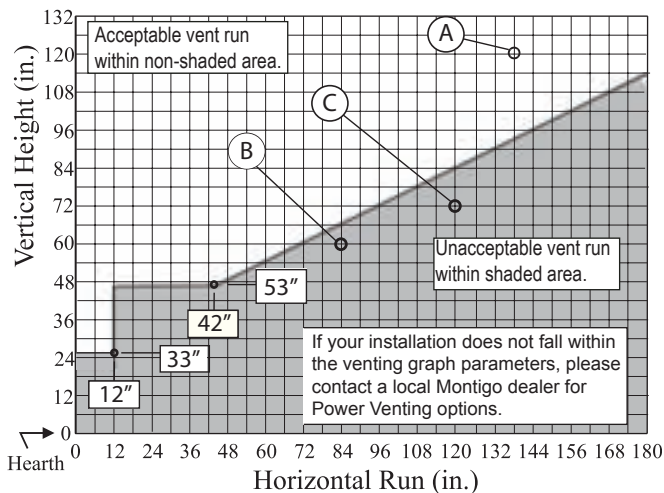

Figure 14. H38PF* or HL38PF* Rear Vent Venting Graph for wall mounted terminations.
- Venting runs *must* fall within the limits set by the venting graphs, see **Figure 14 or 14a**.
Measure the vertical height from the fireplace hearth to the centre of the termination and the horizontal run from the fireplace flue collar to the wall flange of the termination. Plot on the Venting Graph **Figure 14 or 14a** with an 'X'.
Figure 15. H38PF* , HL38PF* or HP38PF* Straight run, Rear Vented, wall mounted termination. The vent run must comply with the Venting Graph for Rear vent, wall mounted terminations, Figure 14 or 14a.
Figure 15a. H38PF* or HL38PF* Rear Vented, wall mounted Multi-elbow termination installation. The vent run must comply with the Venting Graph for **Rear vent, wall mounted terminations, Figure 14.**